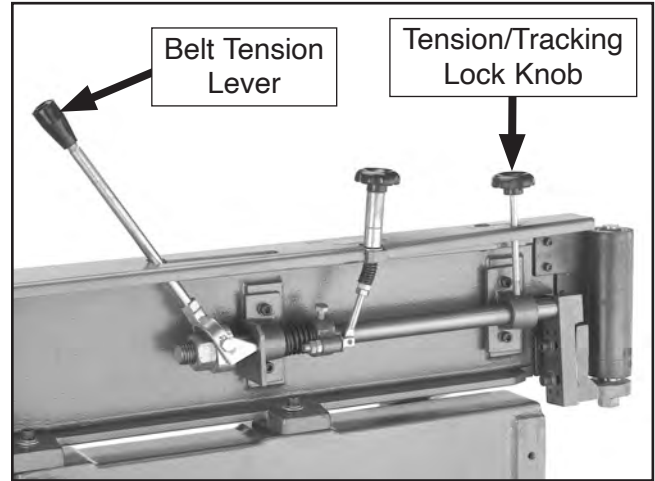

Figure 16. Location of tension/tracking lock knob and tension lever in release position.
3. Loosen tension/tracking lock knob, then move belt tension lever toward motor to release position (see **Figure 16**).